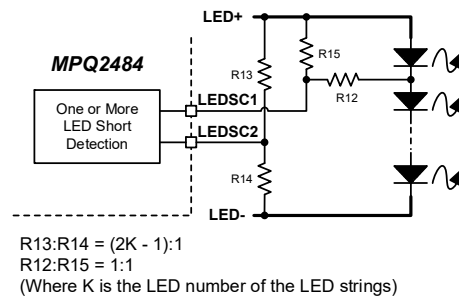

Figure 1: One or More LED Short Protection
- a. Using a number other than 8 LEDs in series triggers one or more LED short protection, which is enabled by default. Ensure that $R13 = (2K - 1) \times R14$ (where K is the LED number of the LED strings) and that $R12 = R15$ (see Figure 1). If this protection is not used, short LEDSC1 and LEDSC2 to LED+.
For applications with eight LEDs in series, set $R13 = 100k\Omega$, $R14 = 6.65k\Omega$, and $R12 = R15 = 6.65k\Omega$ (see Figure 1).